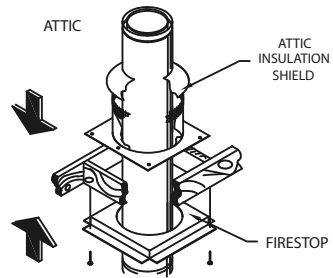

Figure 8
- c. Slip the Attic Insulation Shield over the Chimney until the base sits squarely on the framed opening (**Fig. 8**).